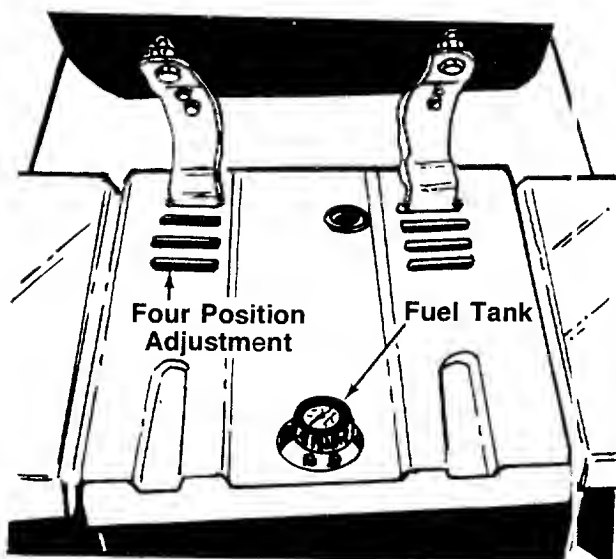

FIGURE 3A.—Models 802, 807, 812, 817, 822 and 827
1. **Models 802, 807, 812, 817, 822 and 827:** The seat can be adjusted to four positions. With the seat tipped forward, hook the front of the seat spring into the slots on the tractor frame. Allow the seat to pivot backwards until it rests on the rear of the springs. See figure 3A.